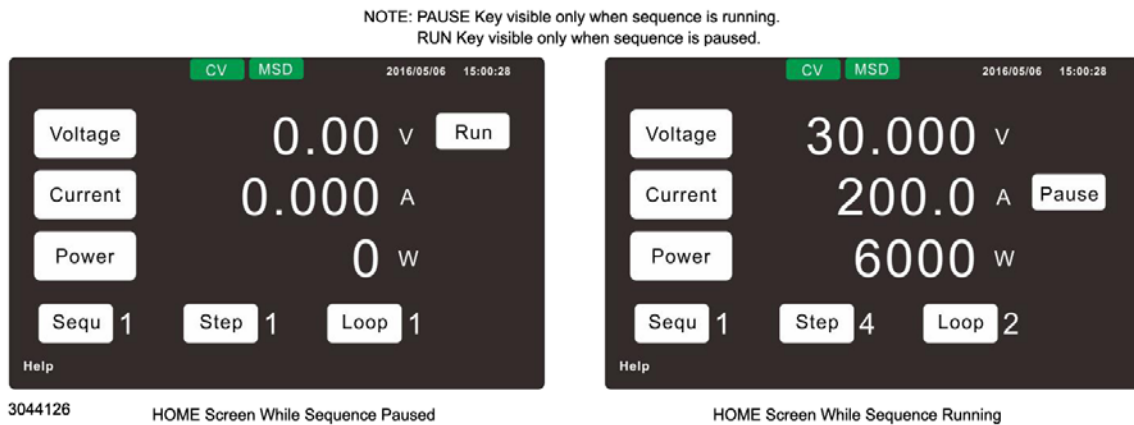

FIGURE 3-15. HOME SCREEN SHOWING SEQUENCE PAUSED AND RUNNING(‡)
2. Press **OUTPUT** on-off switch on the front panel to execute the sequence(s). The voltage current and power displays show sequence, step and loop numbers as well as the voltage, current and power settings as each step is executed (see Figure 3-15). To temporarily pause execution of the sequence touch the **PAUSE** key on the screen. To resume execution, touch the **RUN** key on the screen. Setting the Output to off using the front panel **OUTPUT** on-off switch stops execution of the sequence.